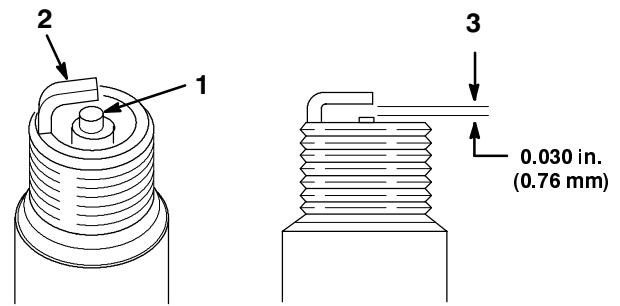

Figure 42
1. Look at the center of the spark plug(s) (Fig. 42). If you see light brown or gray on the insulator, the engine is operating properly. A black coating on the insulator usually means the air cleaner is dirty.
2. Check the gap between the center and side electrodes (Fig. 42). Bend the side electrode (Fig. 42) if the gap is not correct.